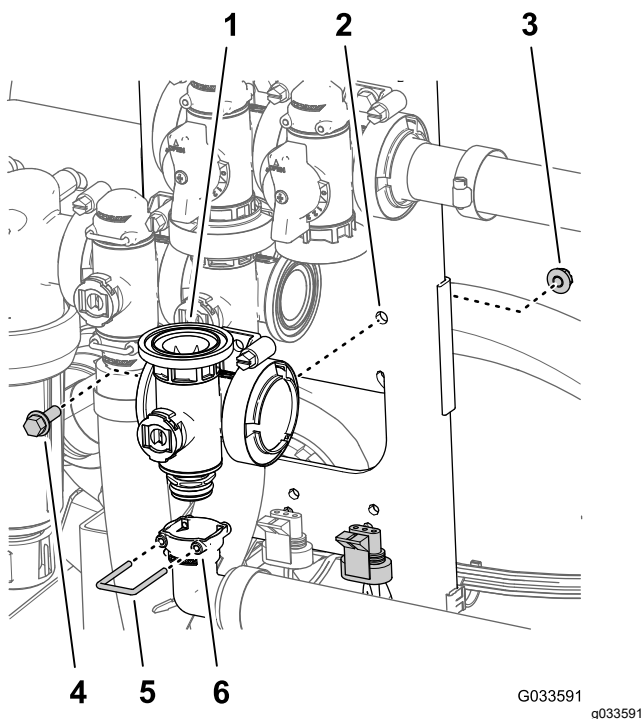

Figure 130
5. Align the socket of the 90° outlet fitting onto the coupling fitting at the at the bottom of the manifold for the master-boom valve (Figure 130).
- Secure the outlet fitting coupling fitting by inserting a retainer into the socket of the outlet fitting (Figure 130).